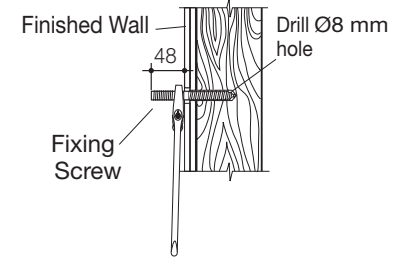

Fig. 2
- 3- Insert expansion fasteners into the drilled holes in masonry wall. Screw Fixing Screws into the wall using the flats located on the screws section of the stud and spanner as shown in **Figure 2**.